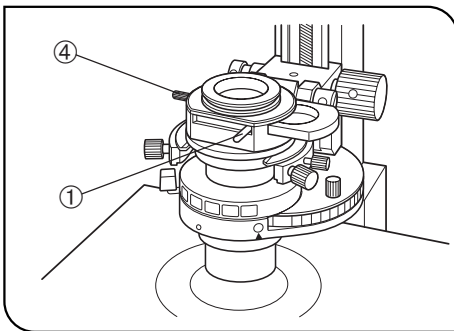

Fig. 65
5 Cross-Nicol Adjustment (Figs. 65 to 67)
(Figs. 65 to 67)
1. Rotate the condenser's turret for the BF (brightfield) light path (with no optical element engaged in the light path). (Fig. 65)
2. Slide the polarizer detaching lever ① on the IX-LWPO polarizer to engage the polarizer in the light path. (Fig. 65)
7. While observing the objective's exit pupil, rotate the polarizer rotation/clamping knob ④ on the polarizer unit horizontally until the black interference stripe becomes darkest. This is the position for use of the polarizer. (Figs. 65 & 67)